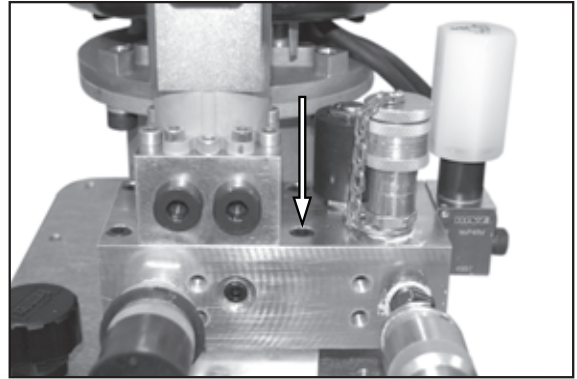

Figure 72.
3. See Figure 72. Remove the four manifold assembly bolts and remove the manifold assembly.